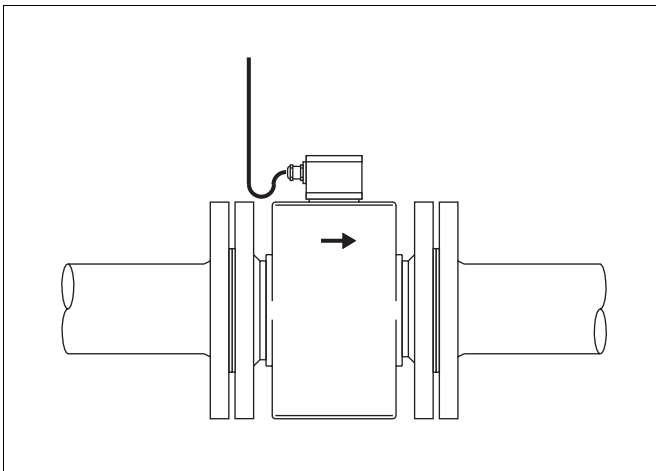

Fig. 39 Cable Routing
- When installing the signal/excitation cable to the flowmeter primary a water trap should be provided, (Fig. 39).